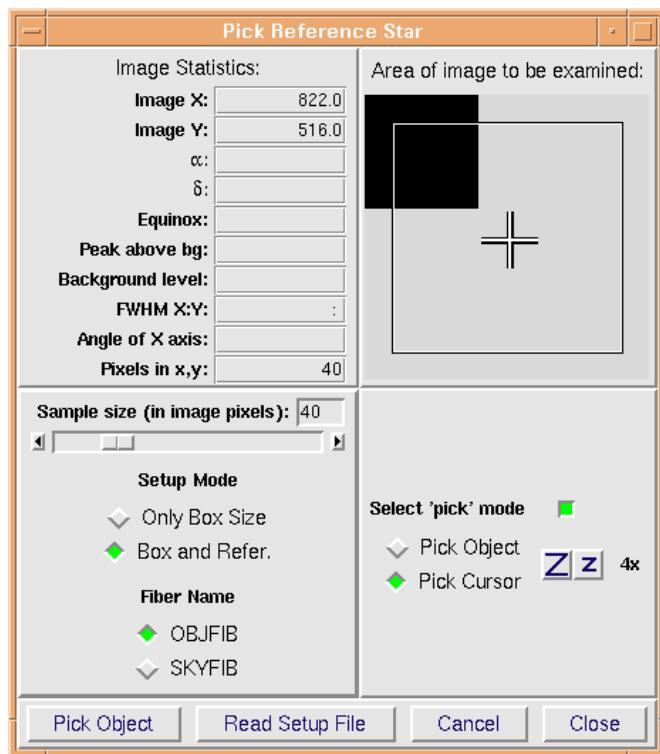

Figure 6.1: Window to set FEROS fibre reference position Pick reference star. Select checkbox Pick Cursor.
- Open or activate window Pick reference star (Fig. 6.1, p. 54).